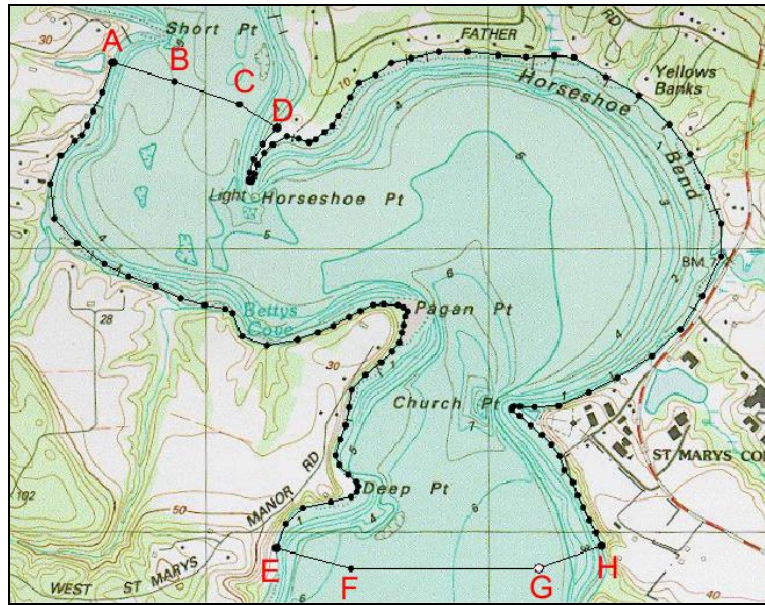

Figure 2 Initial domain
1. Using the **Create Feature Arc**  tool, click on the node at the top of the right bank arc (point A in the upper left side of Figure 2) to start creating an arc.
2. Click to create a vertex roughly one third of the way across the channel at as close to a right angle as possible (point B in Figure 2).
3. Click to create a second vertex roughly two thirds the way across the channel that is perpendicular to the first segment on the left bank (point C in Figure 2).
4. Click on the node at the top of the left bank arc (point D in Figure 2) to complete the arc and close off the upstream end of the river.
- Repeat steps 1–4 to create an arc that closes off the downstream end of the channel as seen in Figure 2.